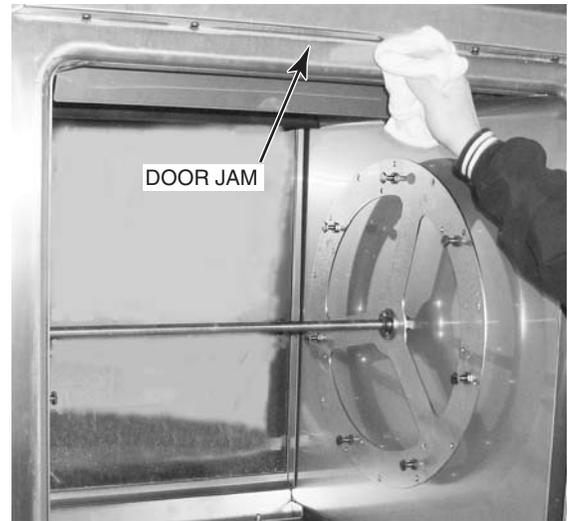

Figure 11
1. Wipe off oven and accessories with a damp or clean soapy cloth, both inside and outside (Figure 11). Wipe clean any soapy residue with a clean damp cloth; allow to dry.